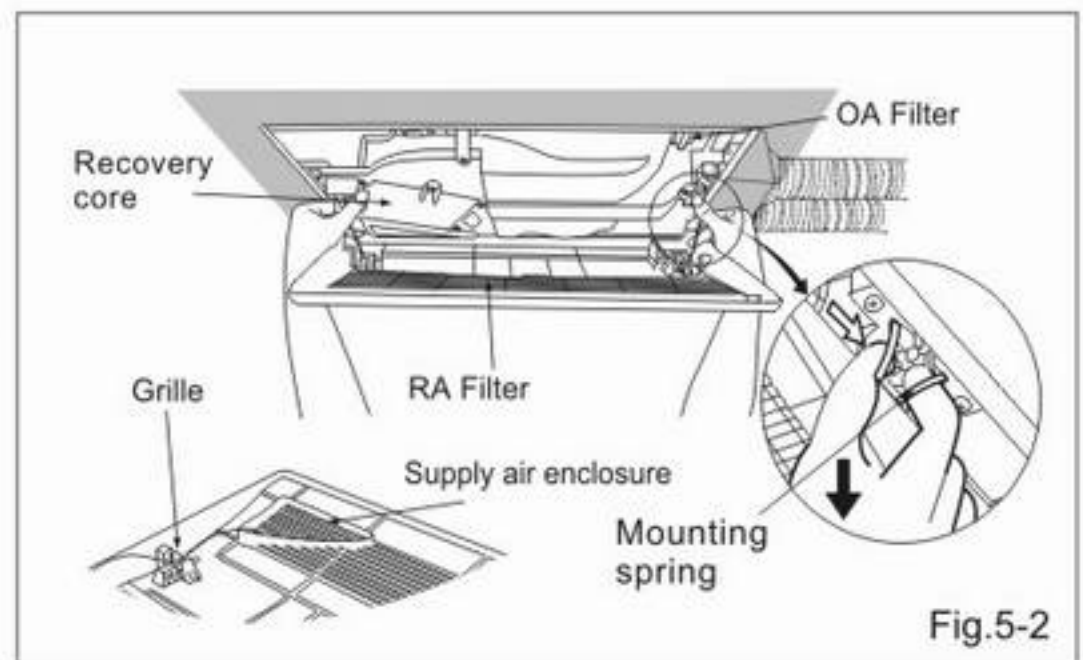

Fig.5-2
11. Turn the grille to the appropriate direction to fit the supply air side. Insert mounting springs into slots as shown and mount grille to fan body. During installation of the grille, keep the recovery core to the left and keep the RA filter in front from your position. (Fig. 5-2)